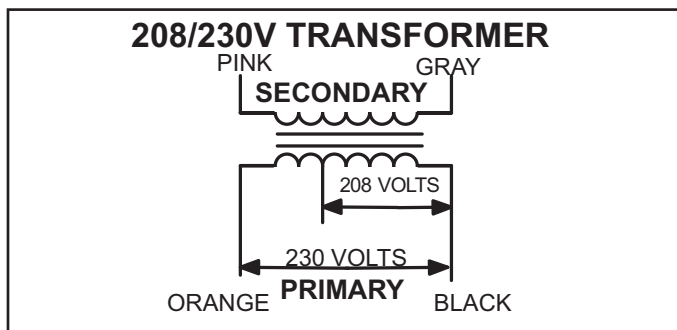

FIGURE 4
The 208/230 (Y) voltage transformers use two primary voltage taps as shown in figure 4, while the 460 (G) voltage transformer use a single primary voltage tap. T43 is used for units with hot gas reheat for additional 24VAC.